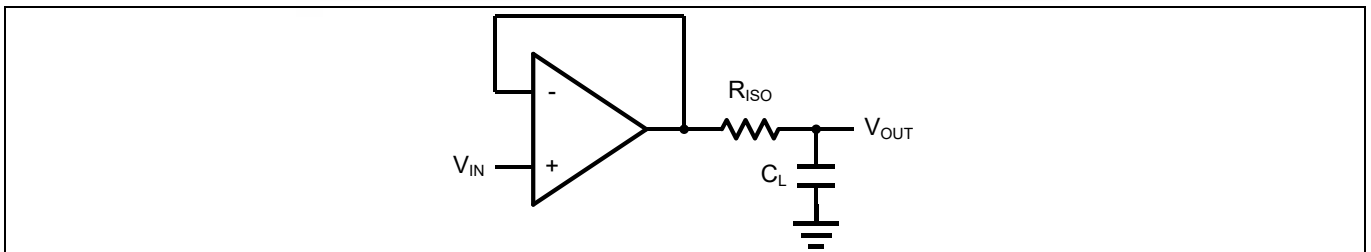
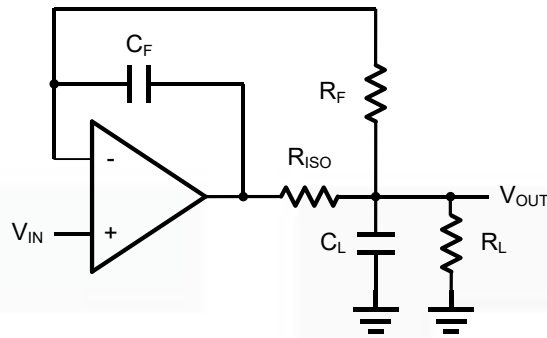

Figure 2 Indirectly Driving a Capacitive Load Using Isolation Resistor
Figure 3. Indirectly Driving a Capacitive Load with DC Accuracy
The GS6011A/YA is optimized for bandwidth and speed, not for driving capacitive loads. Output capacitance will create a pole in the amplifier's feedback path, leading to excessive peaking and potential oscillation. If dealing with load capacitance is a requirement of the application, the two strategies to consider are (1) using a small resistor in series with the amplifier's output and the load capacitance and (2) reducing the bandwidth of the amplifier's feedback loop by increasing the overall noise gain. Figure 2 shows a unity gain follower using the series resistor strategy. The resistor isolates the output from the capacitance and, more importantly, creates a zero in the feedback path that compensates for the pole created by the output capacitance.
The circuit in Figure 3 is an improvement to the one in Figure 2.  $R_F$  provides the DC accuracy by feed-forward the  $V_{IN}$  to  $R_L$ .  $C_F$  and  $R_{ISO}$  serve to counteract the loss of phase margin by feeding the high frequency component of the output signal back to the amplifier's inverting input, thereby preserving the phase margin in the overall feedback loop. Capacitive drive can be increased by increasing the value of  $C_F$ . This in turn will slow down the pulse response.